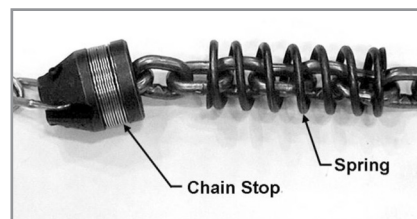

Figure 13
3. On the slack side of the old chain, remove the chain stop and the spring (Figure 13). Keep these handy for later re-installing.
3. On the slack side of the chain, remove chain stop, and remove the spring(s). (See Figure 13). Keep these handy for later re-installing.